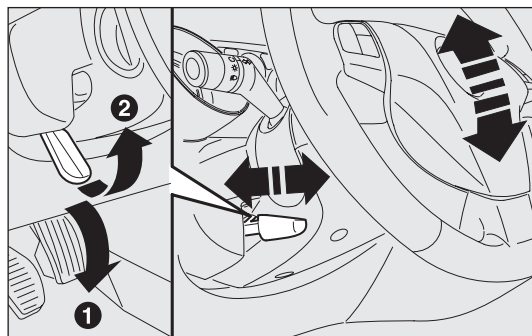

fig. 24
- ☐ release lever A-fig. 24 by pushing it forwards (position 1);